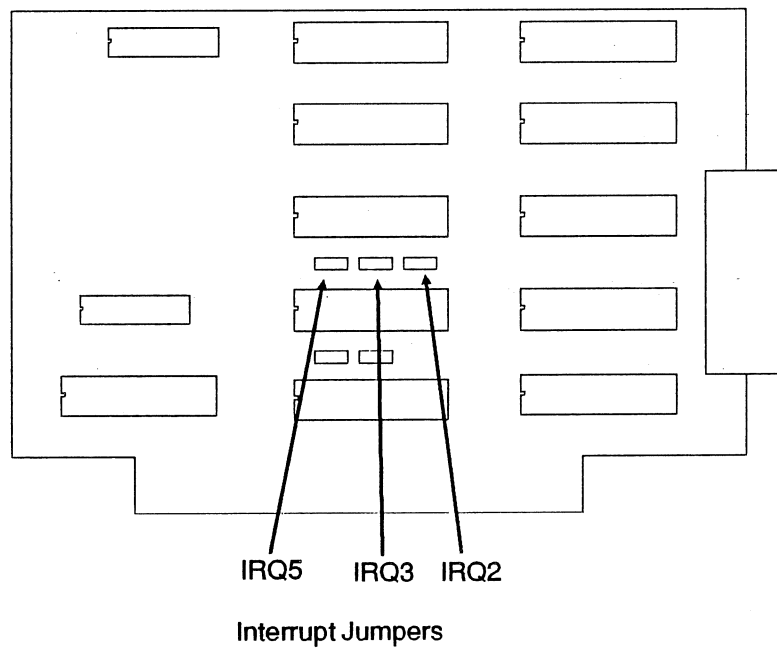

Figure 5-6. Parallel Interface Board Interrupt Jumpers
- 2** Set the Parallel Interface Board interrupt level jumpers as follows (see Figure 5-6):